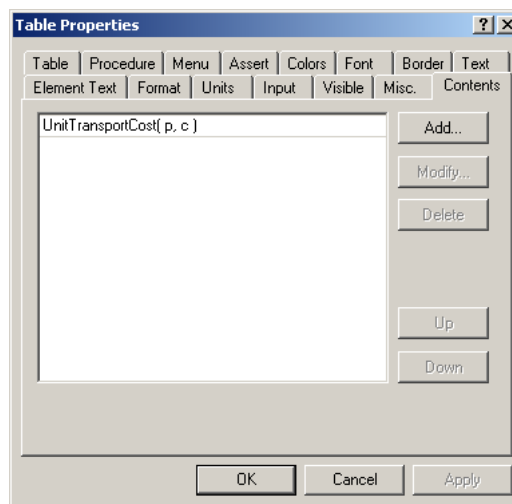

Figure 6.3: Table contents tab
- ▶ select the contents tab (see Figure 6.3),